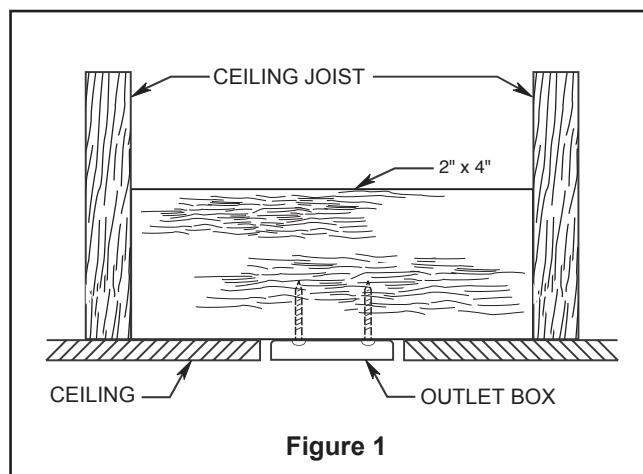
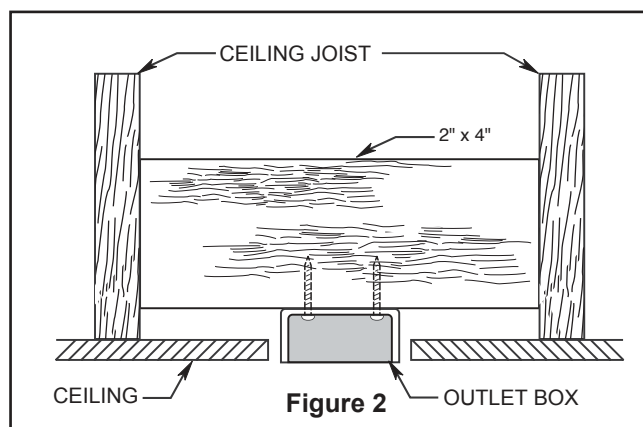
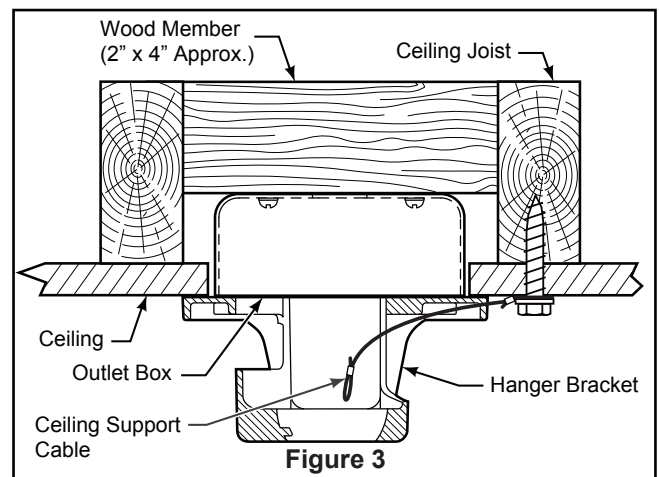

Figure 1
Figure 2
Figure 3
Your new ceiling fan will require a grounded electrical supply line of 120 volts AC, 60 HZ, 15 Amp Circuit. Electrical code requires use of a fan-rated outlet box to support the extra weight and motion associated with a ceiling fan. A fan-rated box will be labeled as such and typically supports up to a 70lb ceiling fan. Fan-Rated Outlet Boxes vary in ratings and design. Ensure the ratings of your ceiling fan outlet box meet the requirements for the ceiling fan being installed. Figure 1, Figure 2 and Figure 3 depicts different structural configurations that may be used for mounting the outlet box.
Low profile box (Figure 1)
Deep box (Figure 2)
Deep box with brace (Figure 3)
3. Loosen the two set screws and locking nuts in the downrod support of the motor assembly. Route the brown, blue, red, gray, yellow wires and safety cable through the downrod. (Figure 3)
1. Securely attach the hanger bracket to the outlet box using the outlet box screws and washers supplied with the outlet box. (Figure 3)
2. Drill a 1/4" pilot hole into the building structure to prevent splitting or cracking with installation of the lag bolt. Using the 3/8" x 2" lag bolt and flat washer, attach safety cable to ceiling joist or wood structural member. The lag bolt will pass through the flat washer, safety cable loop, and into the building structure. (Figure 3) **NOTE:** Ceiling support cable cannot be secured to outlet box only, it must be directly secured to ceiling joist or structural member using the 3/8" x 2" lag bolt and flat washer. (Figure 3)
- 2. Slide the receiver into the hanger bracket before wiring as shown in figure 3.
3. Assemble the light plate assembly to the support bracket using the two key slots in the light plate assembly. Replace the previously removed screw and securely tighten all three screws. (Figure 3)
3. Remove the battery cover from remote control by screwdriver and retain the screw for later. (Figure 3)